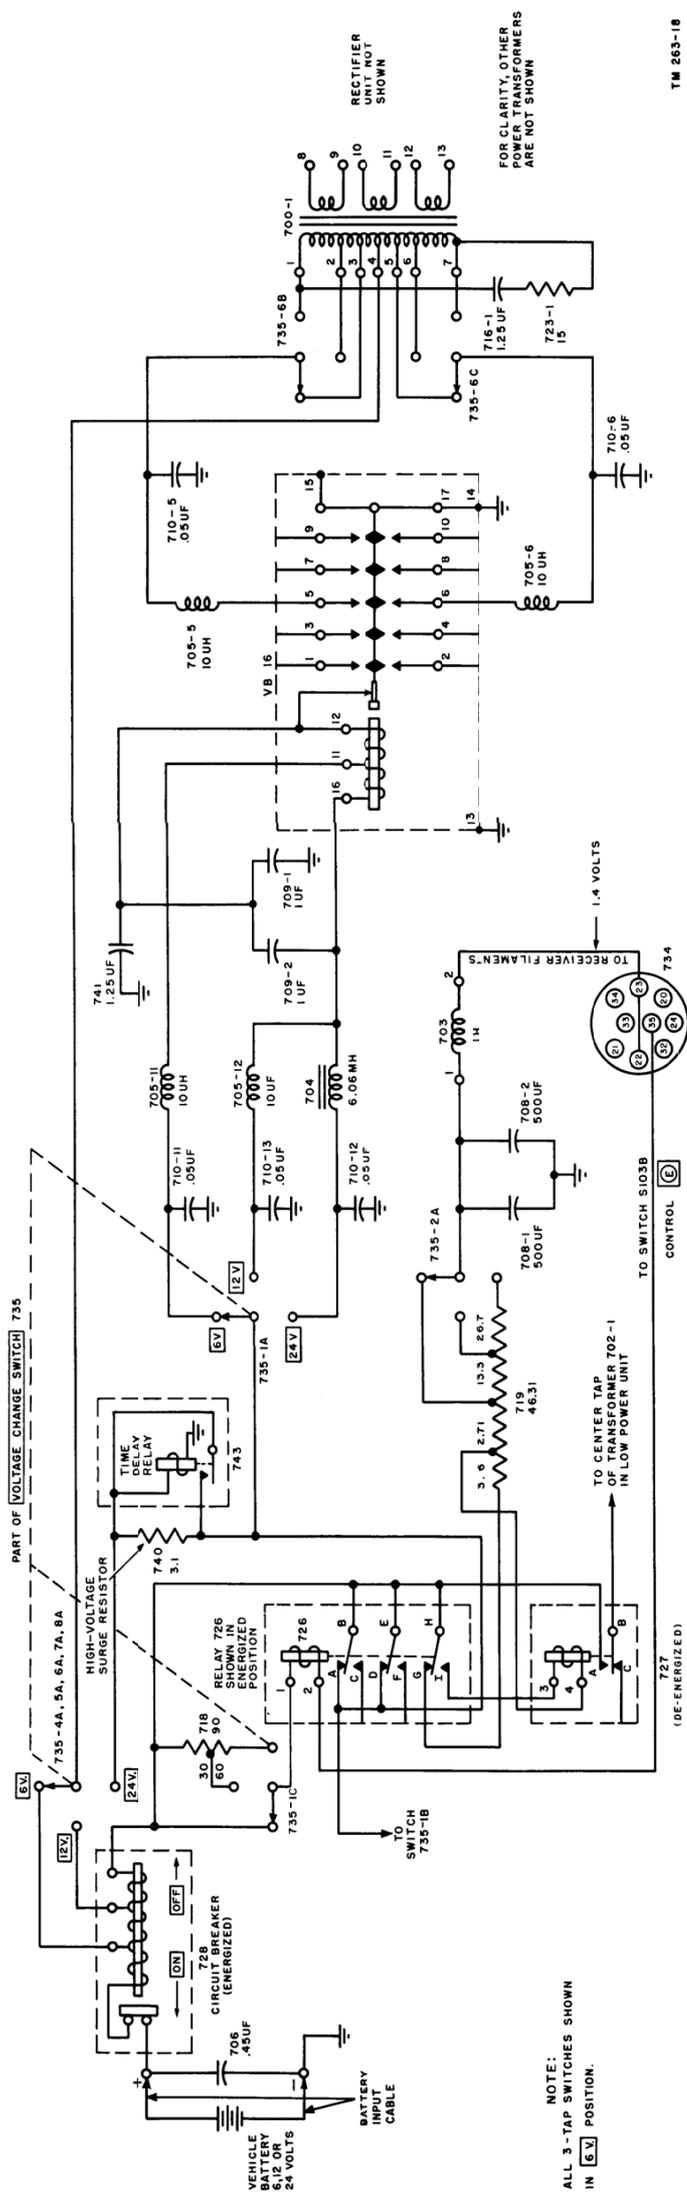
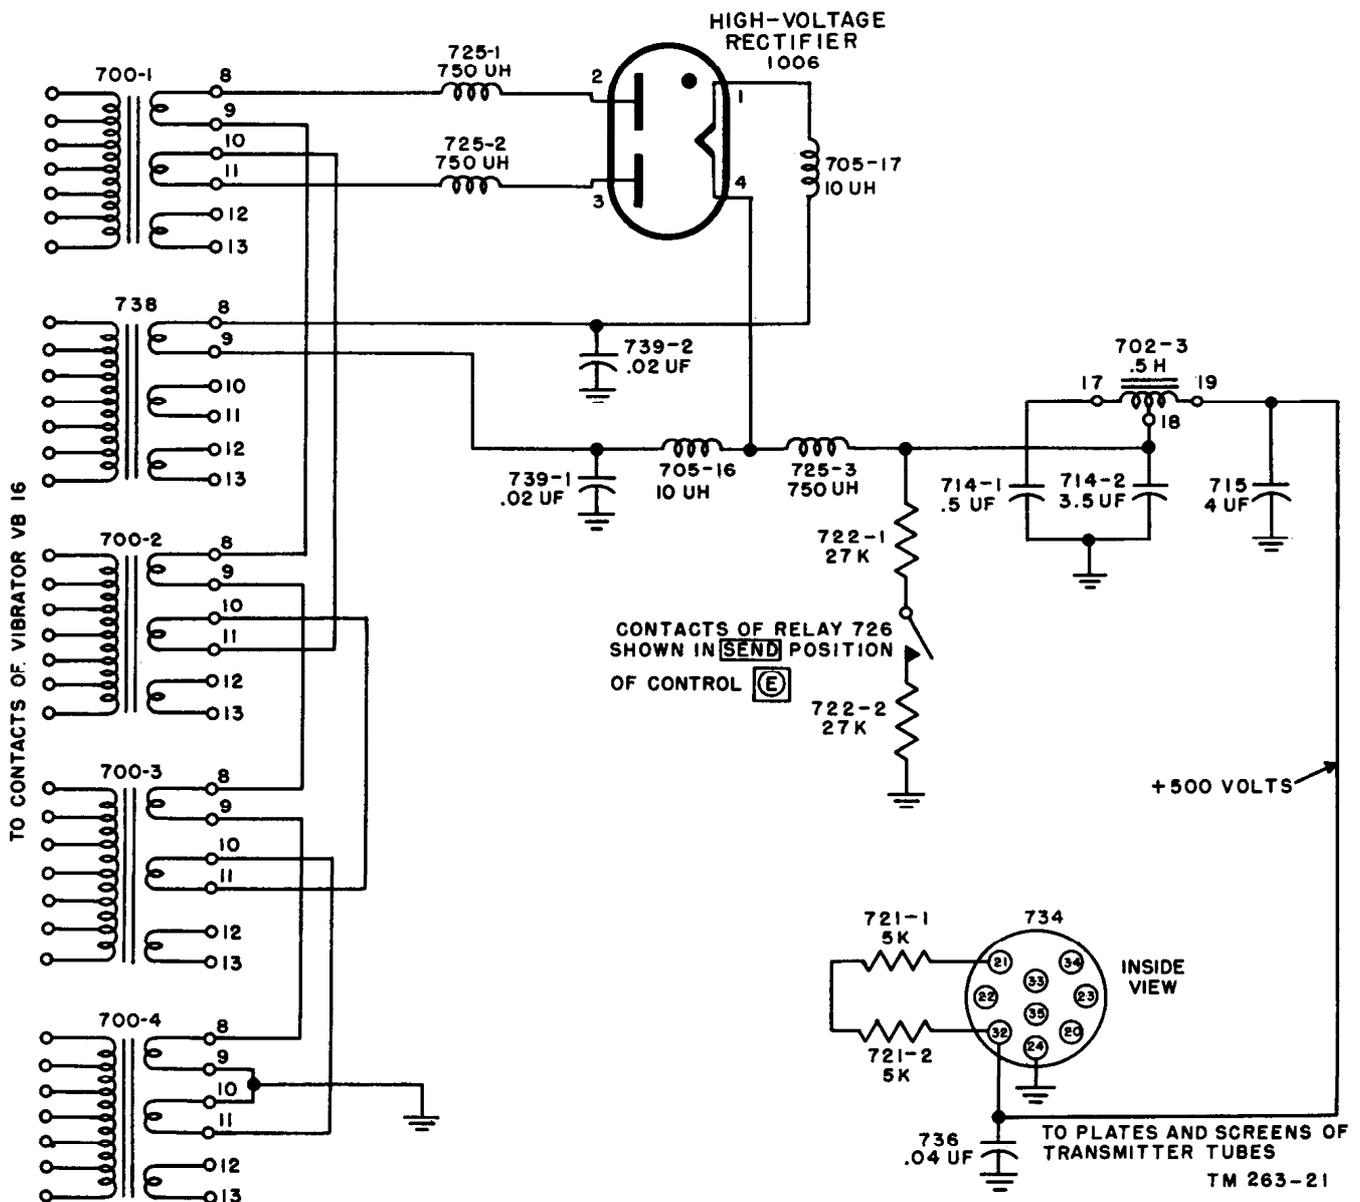

Figure 97. Vibrator heavy-duty section, simplified schematic diagram
Figure 98. High-voltage rectifier and filters of heavy-duty section, simplified schematic diagram.
a. Figure 97 shows the heavy duty section, up to the primary of one of the power transformers. The standby part is not shown, and neither is the
rectifier for the heavy duty section, which will be described in paragraph 142. Terminal 1 of the coil of relay 726 connects through voltage selector switch 735-1C to circuit breaker 728, and to the positive terminal of the vehicular battery. If the other end of the coil of relay 726 is connected to ground, the relay would be energized. Terminal 2 of the coil of relay 726 connects to terminal 35 of power output receptacle 734. Terminal 35 connects to terminal 55 of receptacle J102 on the transmitter by means of Cord CD-1086. Pin 55 (fig. 94) connects to ground when switch S103B is turned to SEND. Therefore, when control ⑤ is turned to SEND, the coil of relay 726 is energized and pulls the movable contacts up (fig. 97).
a. Filament-dropping resistor 719 connects directly to stationary contact G on relay 726 and through movable contact H, which is connected to the positive side of the battery through circuit breaker 728. Therefore, on SEND position of control ⑤, the receiver filaments obtain their current through contacts G and H of relay 726 (fig. 97), while on STANDBY the filament current flows through the coil of the other relay 727 (fig. 96).
### 137. Switch Sections 735-4A, -5A, -6A, -7A, and -8A (fig. 97)
### 138. Hv Starting Resistor of Vibrator Power Supply (fig. 97)
### 139. Driving Coil of Vibrator VB16 (fig. 97)
#### 140. Vibrator VB16 and Power Transformer (fig. 97)
a. The ac surges through the primaries of the power transformers cause a very high voltage to be induced in the secondaries (fig. 98). All the secondaries that have taps marked 8, 9, 10, and 11 are connected in series, except the windings of transformer 738. The combined voltage present in this series combination is impressed upon the plates of rectifier tube 1006, which operates as a full-wave rectifier, and is rectified. The filament of tube 1006 receives its voltage from taps 8 and 9 of transformer 738 and this is the only purpose for which transformer 738 is used. Because of rf noise generated in gas tube 1006, it is necessary to place rf choke coils 725-1 and 725-2 in series with the rectifier plates to filter out any rf disturbances which occur. Hash suppression filters, located in the filament leads, consist of capacitors 739-1 and 739-2 in conjunction with choke coils 705-16 and 705-17. The rectified hv output is taken from pin 4 of tube 1006, to ground.
a. Capacitor 739-1 and 739-2 (fig. 98), which are the filament bypass capacitors for the hv rectifier tube 1006 filaments, are not supplied in early models of Vibrator Power Supply PE-237. Hv surge resistor 740 and time delay relay 743 are used only in models having serial numbers 22436 and up (figs. 97 and 172).
b. Another change is the method of operation of rectifier tube 1006. In the late models (fig. 172) of the vibrator power supply, this tube has its filament heated by voltage from transformer 738, while only four power transformers, 700-1 through 700-4, supply plate voltage to the rectifier tube (fig. 98). In the older models, the filament of the hv rectifier tube 1006 did not have any voltage applied to it, so it operated as a cold-cathode rectifier, having five power transformers supplying rectifier plate voltage (fig. 171).